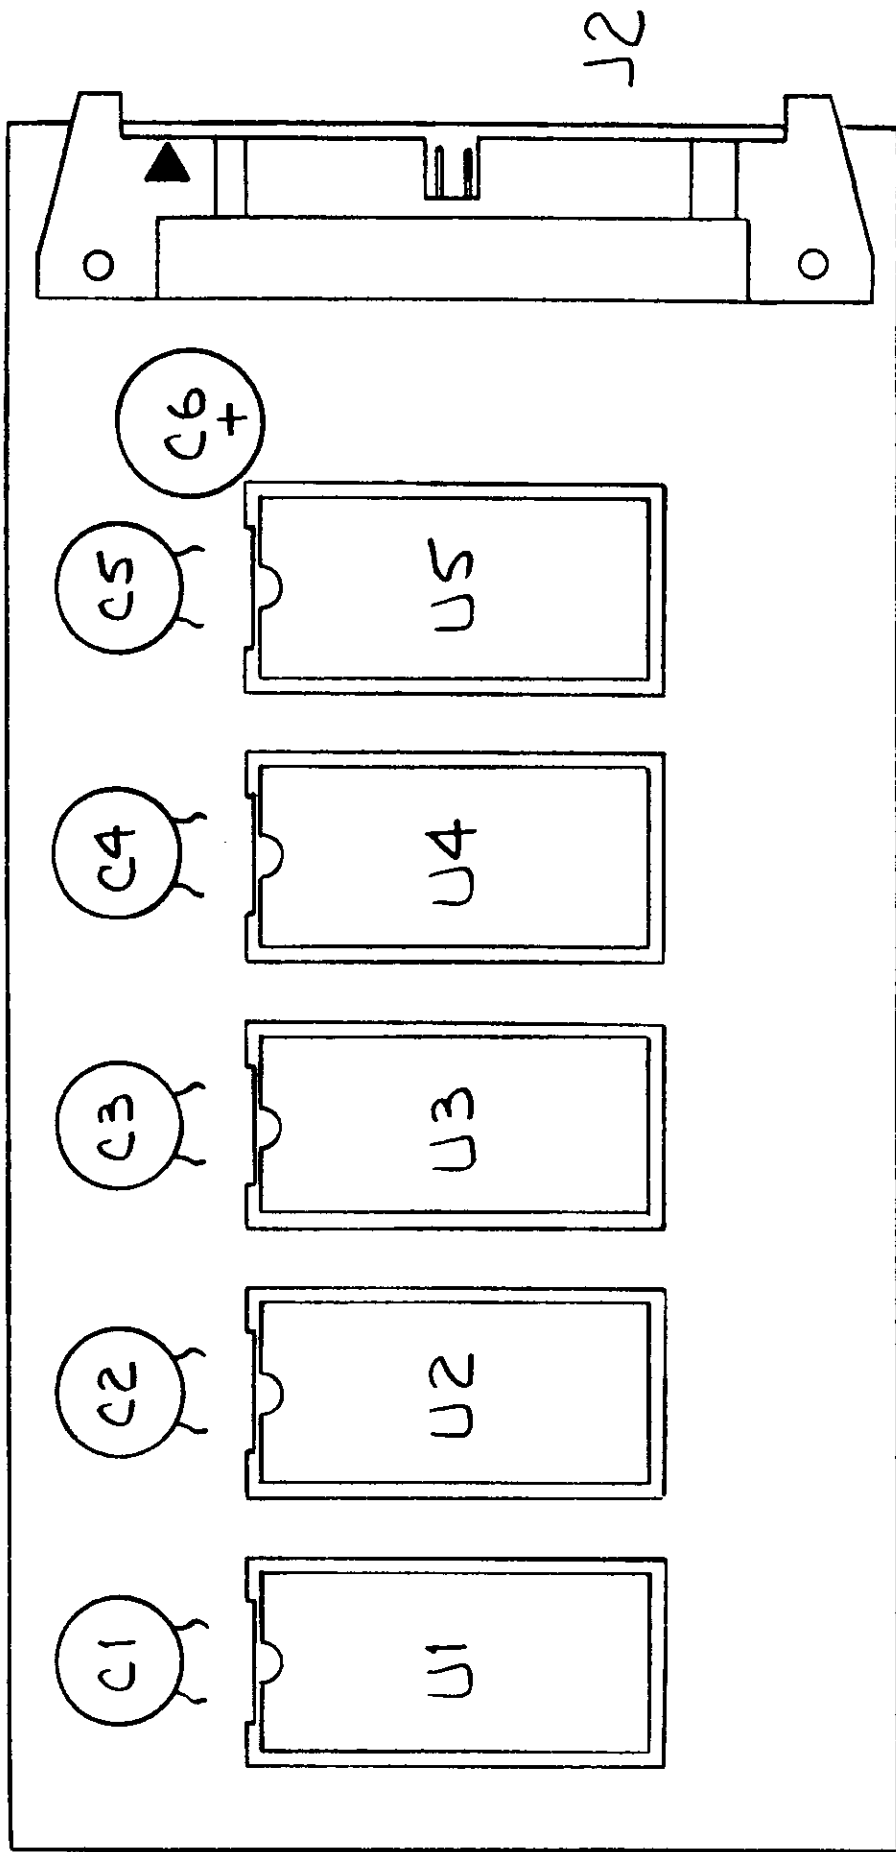

FIG 3
- f. Insert new ROMS in appropriate sockets using caution to ensure the notch or Pin 1 on each ROM faces the capacitor (fig 3).